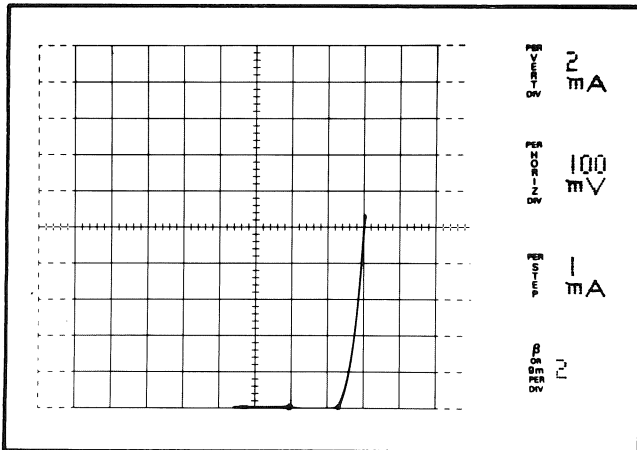

Fig. 2-5. Test 2,  $V_{BE}(\text{sat})$
8. Press the 172 ADVANCE button. The 172 will switch to Test 2,  $V_{BE}$  (sat).  $V_{BE}$  (sat) is that voltage (800 mV) at which  $I_C$  is 10 mA. See Fig. 2-5.